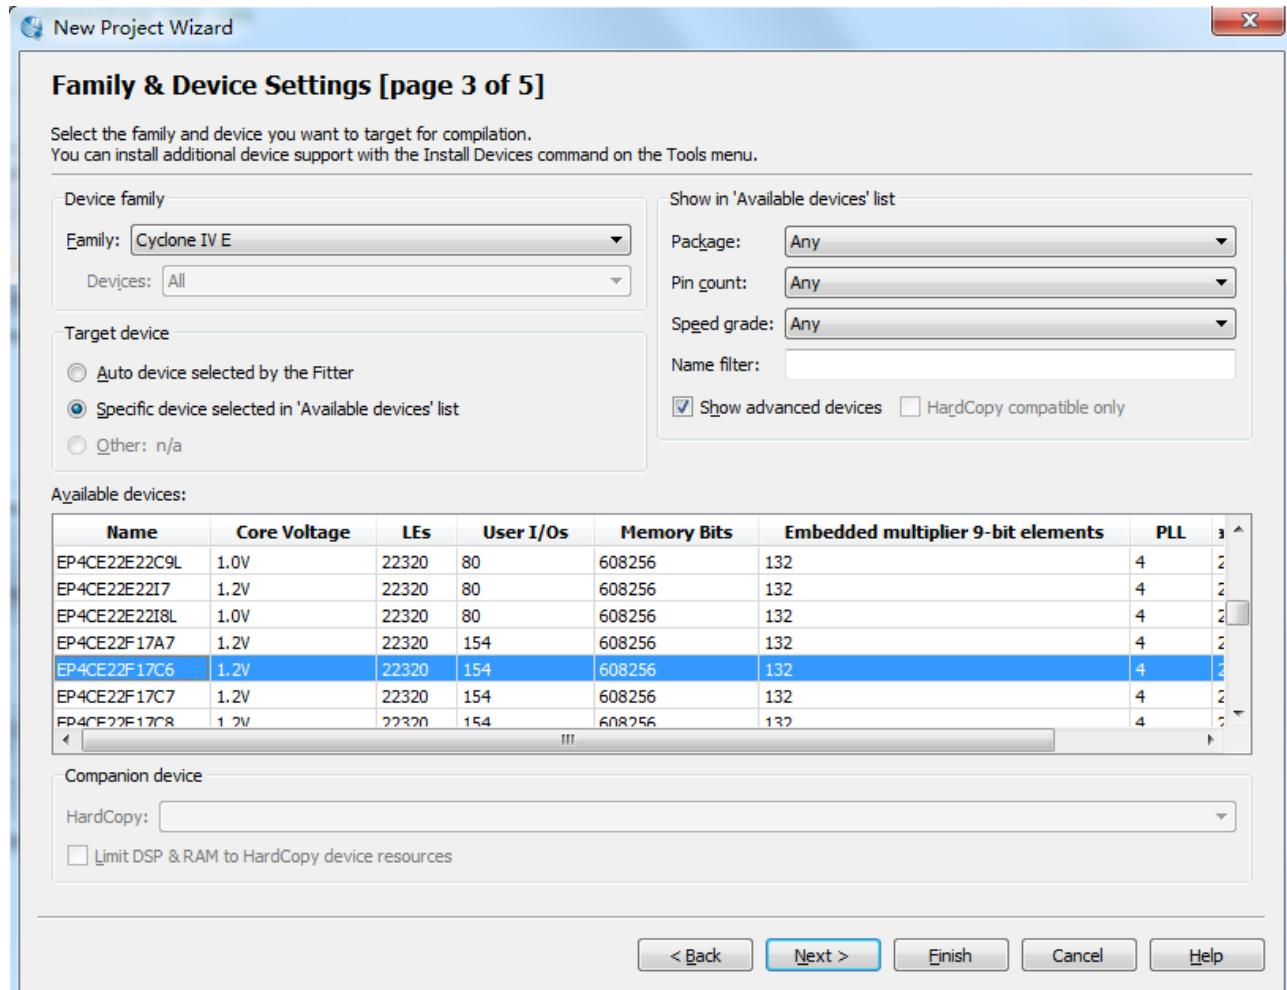
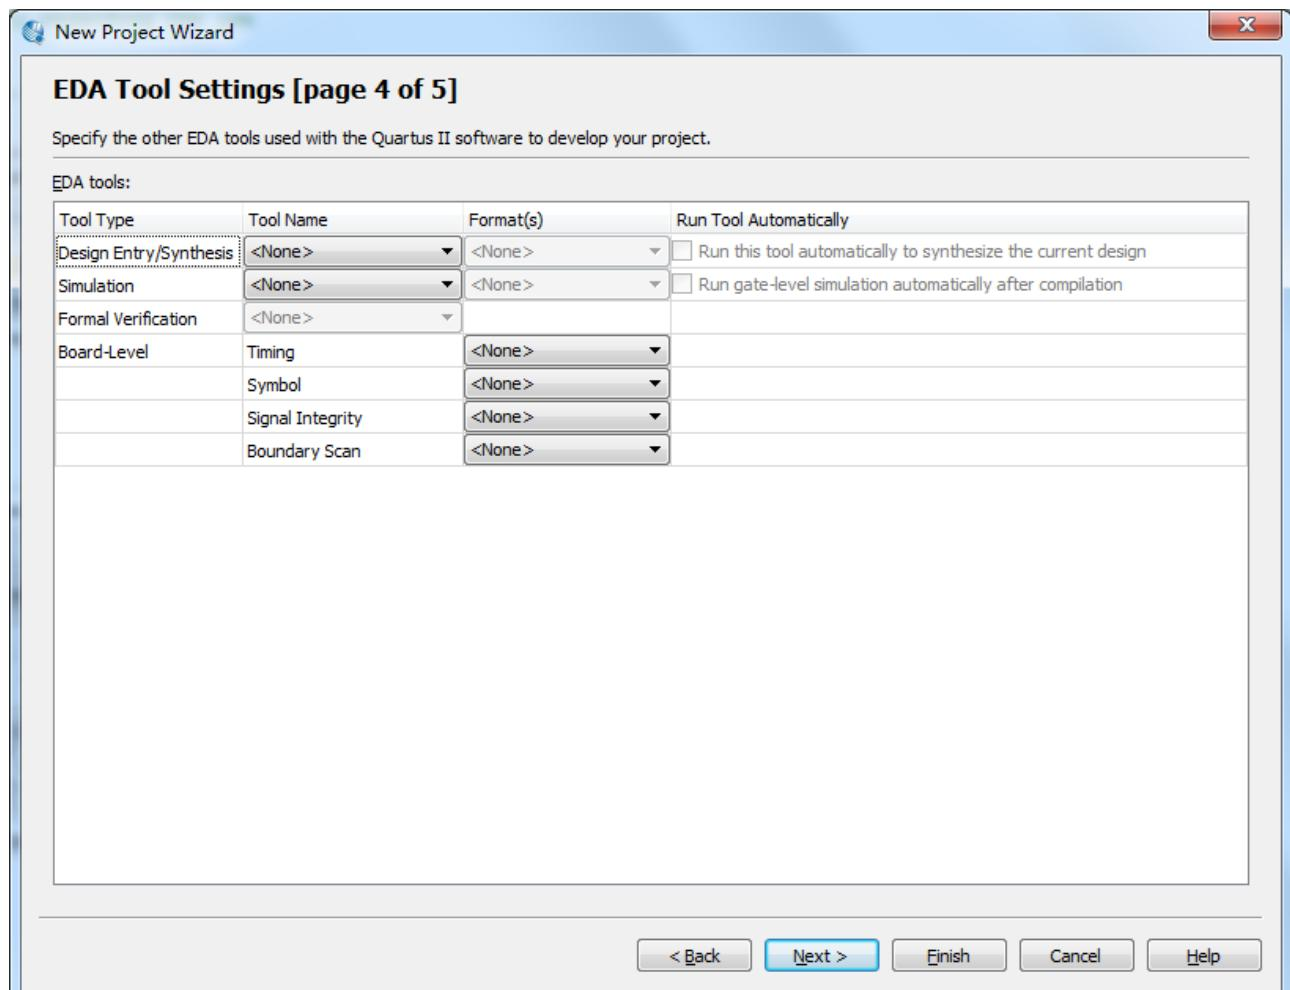

Figure 1-5 New Project Wizard: Family & Device Settings [page 3 of 5]
Figure 1-6 New Project Wizard: EDA Tool Settings [page 4 of 5]
3. Click Next to next window. We choose device family and device settings. You should choose settings the same as the **Figure 1-5**. Then click Next to next window as shown in **Figure 1-6**.
15. Connect the **clk** and **clk_reset** and **data_master** as shown in Figure 1-5.